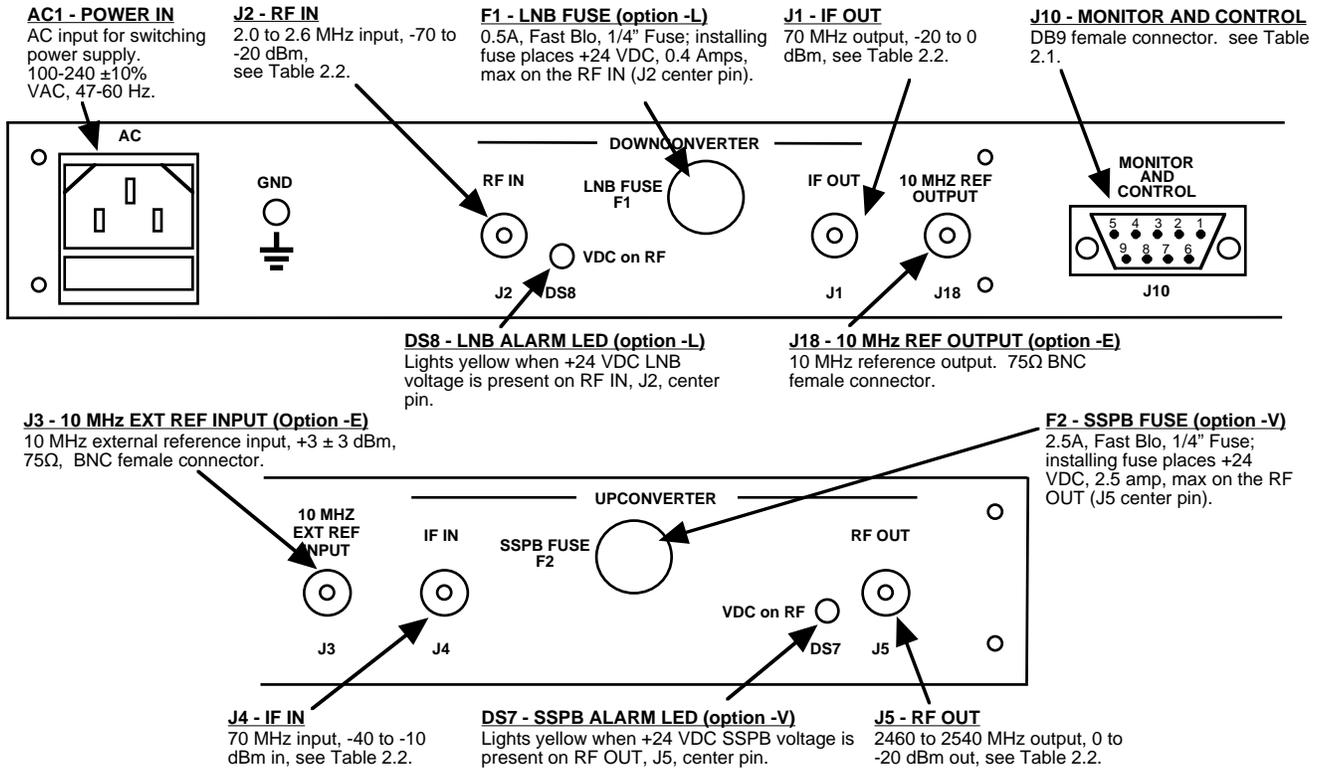

Figure 2.1 Model 2017-25-02 Rear Panel I/O's
2.2 Rear Panel Input/Output Signals and Control - Figure 2.1 shows the input and output connectors on the rear panel.
- 1.) Connect a -10 dBm to -40 dBm signal to IF In, J4 (Figure 2.1).
- 1.) Connect a -70 dBm to -20 dBm signal to RF In, J2 (Figure 2.1).